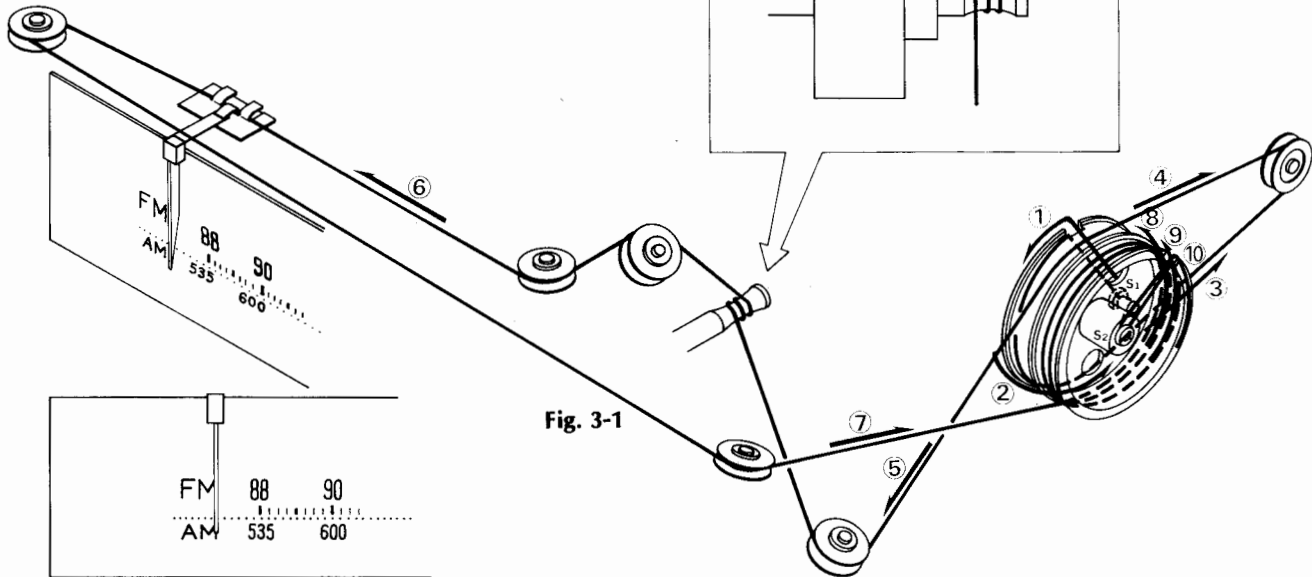

Fig. 3-1
Thread the dial cord in numerical order from ① to ⑩ as Fig. 3-1.
- 3) Thread cord in the direction of arrow from ① to ⑩.
- 4) After ⑩, tie the cord to the screw S2 of the dial pulley.